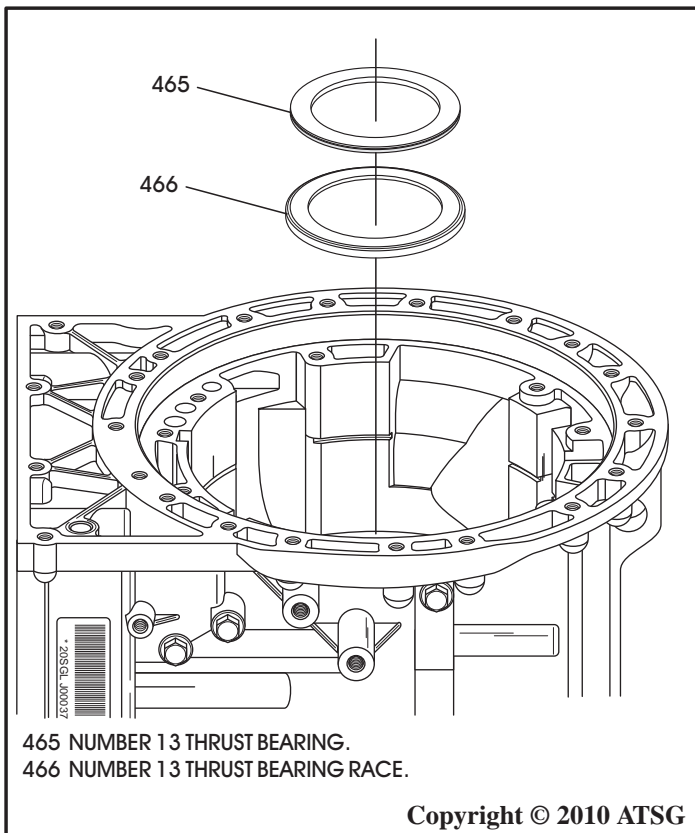

Figure 71
65. Remove the number 13 thrust bearing and thrust bearing race, as shown in Figure 71.